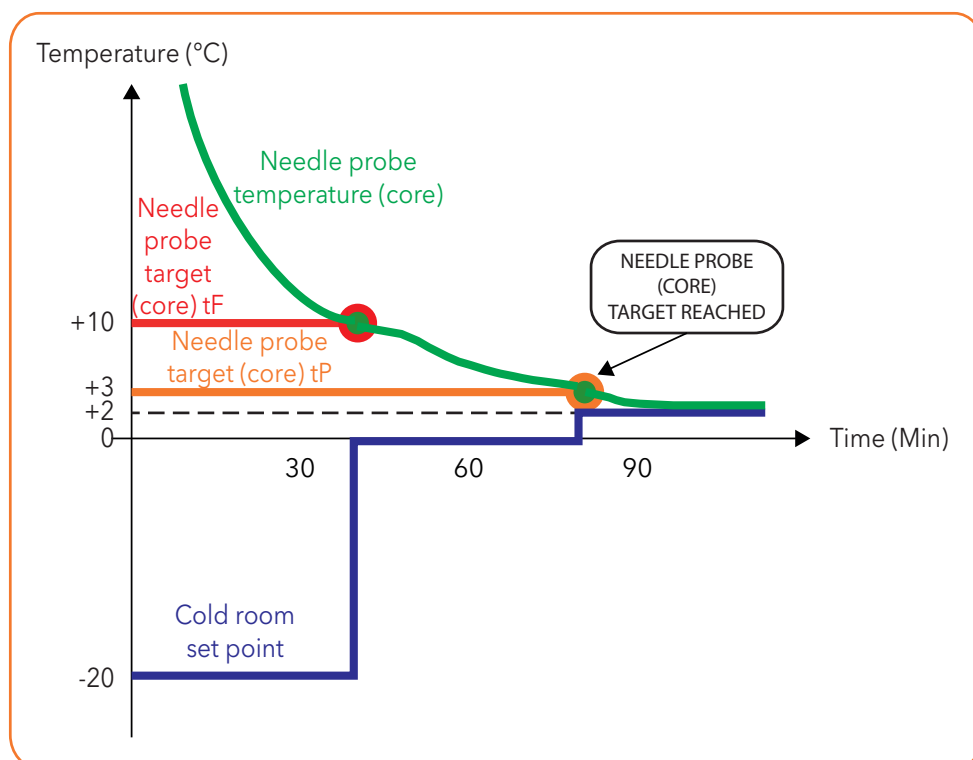

Fig. 11. Positive program with hard blast chill mode
- positive (cooling), with positive reference temperature (target temperature), and hard blast chill mode (**Fig. 11 on page 21**);
The numeric values shown in **Fig. 11 on page 21** are the default values.